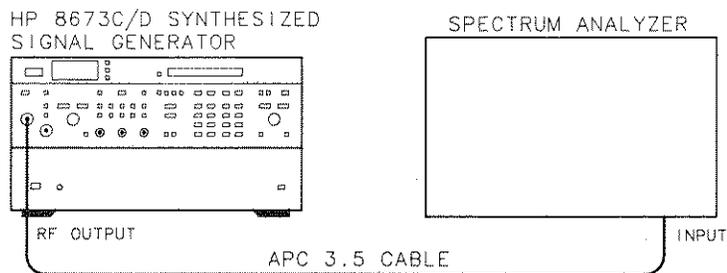

Figure 4-19. Non-harmonically Related Spurious Test Setup
1. Connect the equipment as shown in Figure 4-19.